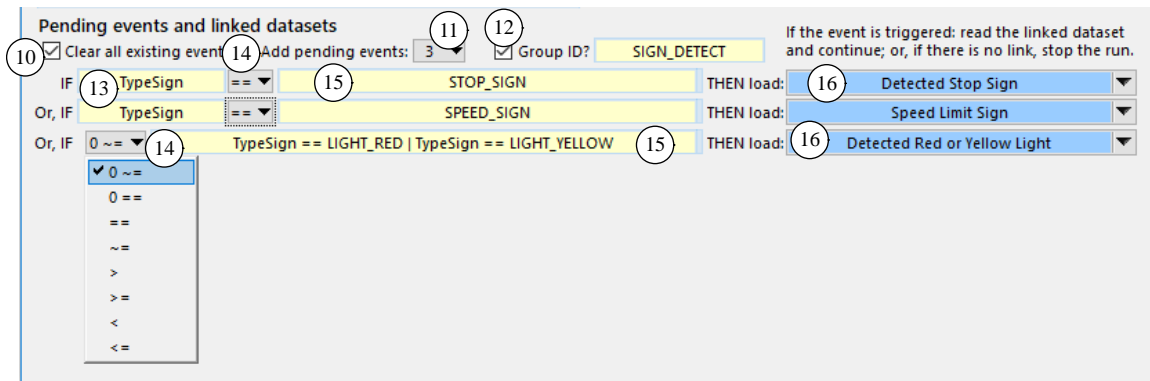
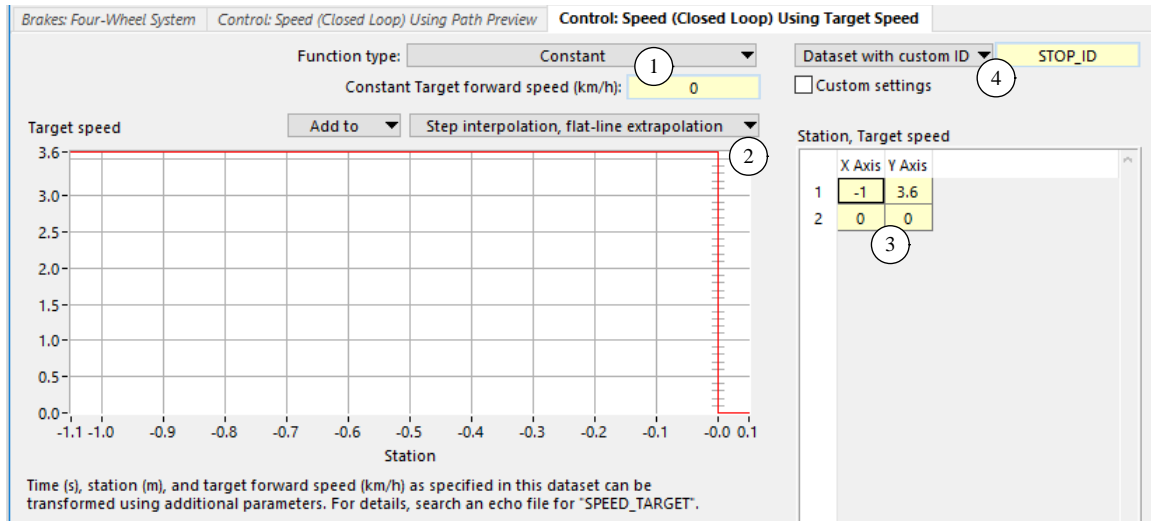
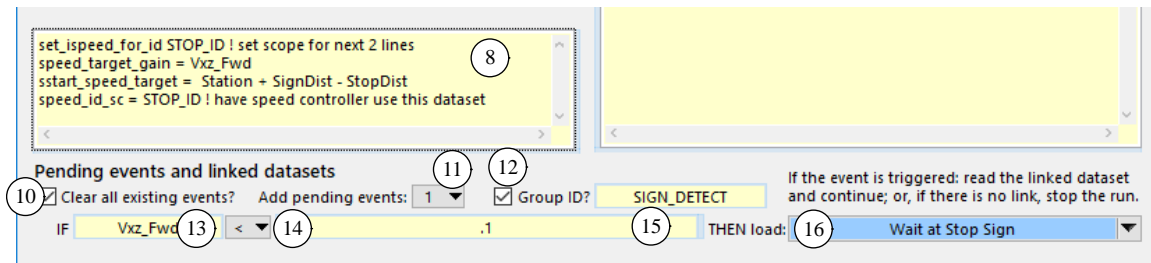

Figure 12. Options for specifying the formula for an Event.
Figure 17. Speed target dataset for constant deceleration to stop.
Figure 18. Event triggered when Stop Sign is detected.
- ⑬ Variable used to make an Event, along with an operator ⑭, *reference* ⑮, and possibly a link to another Parsfile that will be read if the Event is triggered ⑯. This field is hidden if the operator drop-down control ⑭ (Figure 12) is set to either of the first two options.
- ⑭ The definition of an Event is shown on the screen with the form:
The Event is defined by establishing a formula that is evaluated each time step. There are two layouts available for entering the formula, with both shown in Figure 8 and Figure 12.
With the other six options, two fields are shown, separated by the Boolean relational operator. For example, the first Event in Figure 12 uses the  $==$  operator to create a formula with a named variable (TypeSign (13)) and a reference formula (STOP\_SIGN (15)). In this case, the VS Command MAKE\_EVENT is used to create the pending Event. This command has the form:
For example, Figure 16 shows part of the Parsfile for the data shown in Figure 8 and Figure 12. The first two Events are created with the MAKE\_EVENT command; the third uses the DEFINE\_EVENT command.
Many of the example ADAS scenarios that are included with CarSim, TruckSim, and BikeSim make use of Events that can be triggered in various sequences. The first pending Event in the **Events** dataset shown in Figure 8 and Figure 12 is triggered when a stop sign is detected.
Figure 17 shows a dataset with a normalized target `SPEED_TARGET` set to  $V = 1$  m/s (3.6 km/h) until  $S = 0$  m. As with most Configurable Functions, the inputs and outputs can be transformed using built-in parameters. In this case, the `SPEED_TARGET` gain and station offset are set in an **Events** dataset that is loaded when a stop sign is detected (Figure 18). (This is the dataset link for the first Event shown in Figure 8 and Figure 12.)